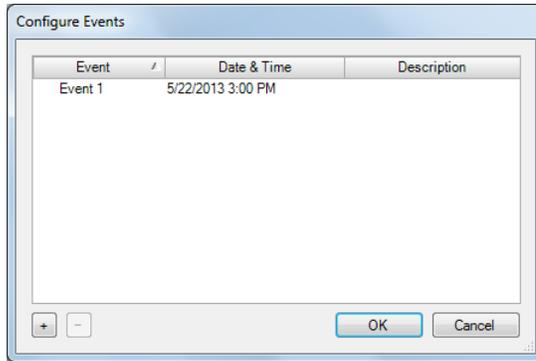

Figure 5-15. Configure Events window
3. Click the **Configure Events** button. The Configure Events window opens as shown in Figure 5-15.